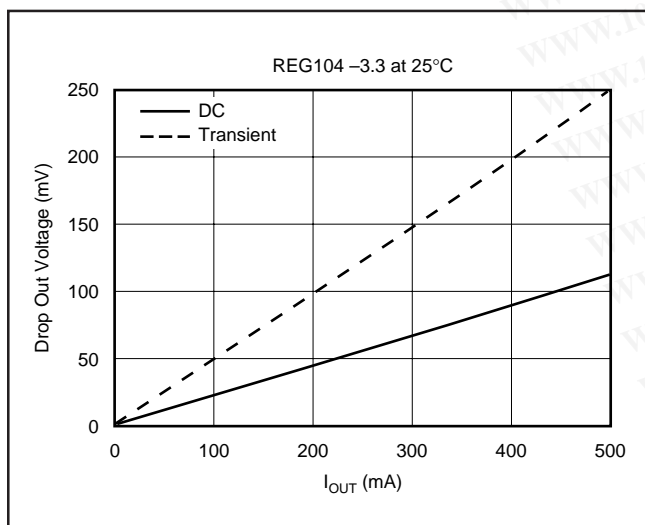

FIGURE 8. Transient and DC Dropout.
The REG104 uses an N-channel DMOS as the *pass* element. When the input voltage is within a few hundred millivolts of the output voltage, the DMOS device behaves like a resistor. Therefore, for low values of V_{IN} to V_{OUT} , the regulator's input-to-output resistance is the R_{dSON} of the DMOS pass element (typically 230mΩ). For static (DC) loads, the REG104 will typically maintain regulation down to V_{IN} to V_{OUT} voltage drop of 230mV at full rated output current. In Figure 8, the bottom line (DC dropout) shows the minimum V_{IN} to V_{OUT} voltage drop required to prevent dropout under DC load conditions.
For large step changes in load current, the REG104 requires a larger voltage drop across it to avoid degraded transient response. The boundary of this *transient dropout* region is shown as the top line in Figure 8. Values of V_{IN} to V_{OUT} voltage drop above this line insure normal transient response.